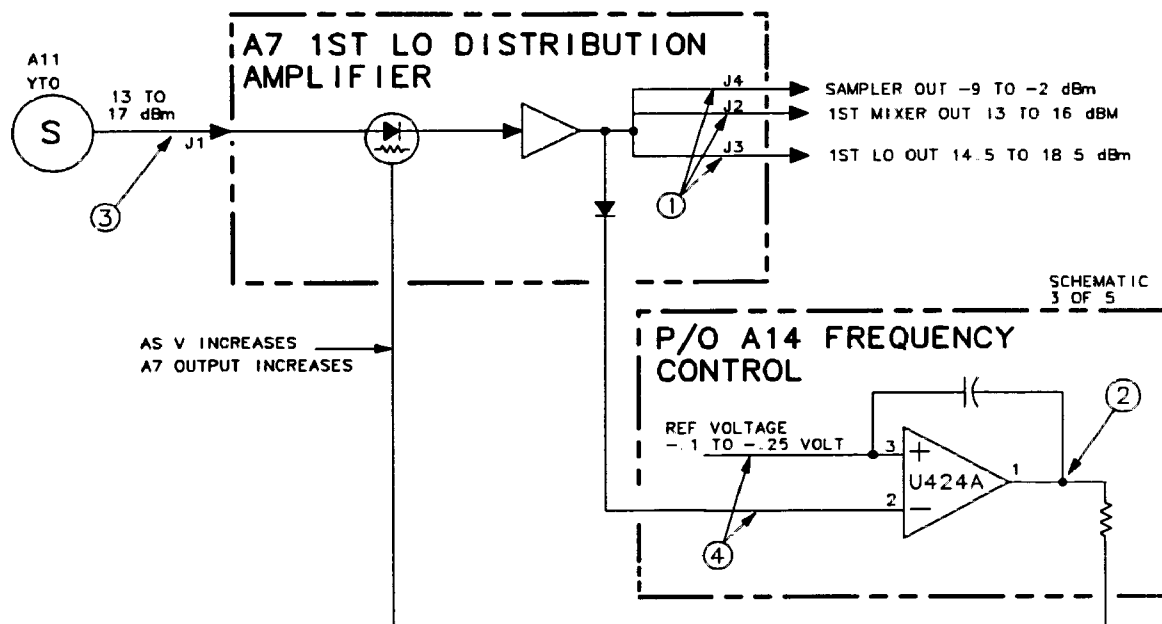

Figure 12-2. A7 LODA Drive
2. Measure the signal power at the output of A7 (see item (1) of Figure 12-2).
3. If the output power is low, A14U424A's output voltage, item (2), (A14J18 pin 14) should be above 0 V. If the output power is high, the voltage should be more negative than -10 V . If the voltages do not measure as indicated, check that the voltages at A14J18 pins 5 and 13, item (4), are consistent with the operational amplifier's output.
4. If the voltages measure as indicated in step 3, measure the A11 YTO output. (See item (3) of Figure 12-2.)